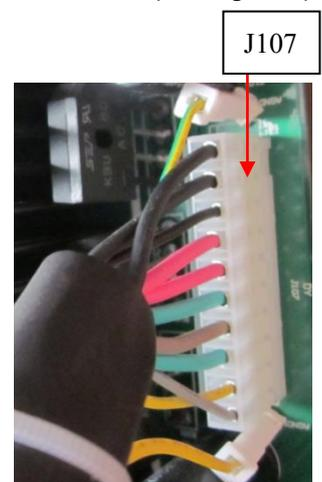

Figure 3-3
- Check if the connection between transformer output and J107 is reliable or not(see fig. 3-3). If there is problem, replace 78T12.